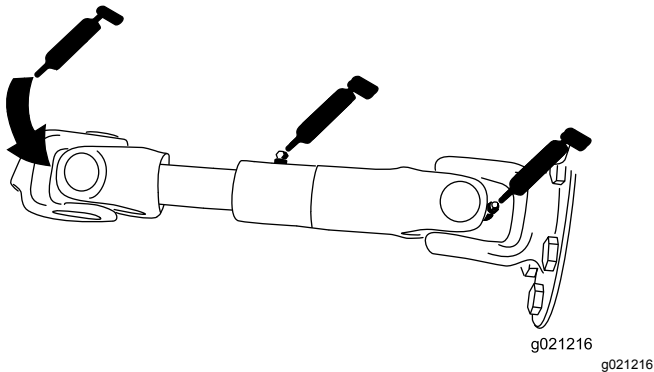

Figure 76
- Pump driveshaft (3) (Figure 76)